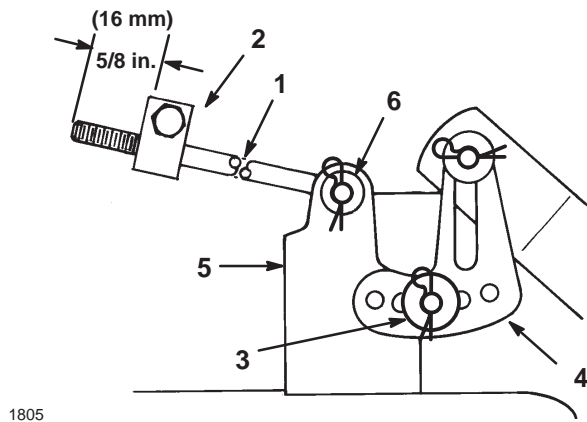

Figure 45
8. Ensure that both rods extend 5/8 in. (16 mm) beyond the adjustment block (Fig. 45).
9. Slide the end of the long rod through the hole in the mower mount (Fig. 45).
10. Install the thin washer and hairpin cotter to secure the rod in place (Fig. 45).
11. Mount the slotted mower leveling bracket onto the pin on the mower mount (Fig. 45).
12. Install the thick washer and hairpin cotter to secure the mower (Fig. 45).